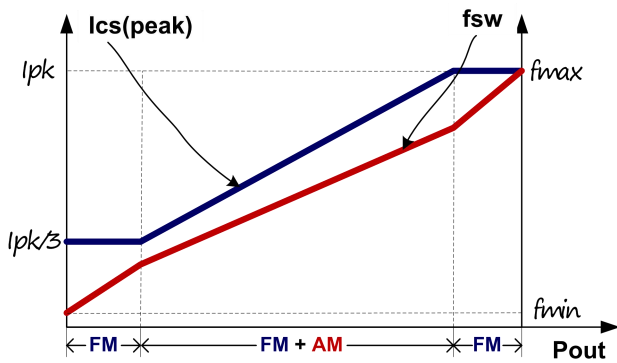

Fig.4
To meet the tight requirement of averaged system efficiency and no load power consumption, a hybrid of frequency modulation (FM) and amplitude modulation (AM) is adopted in DP2525F which is shown in the Fig 4.